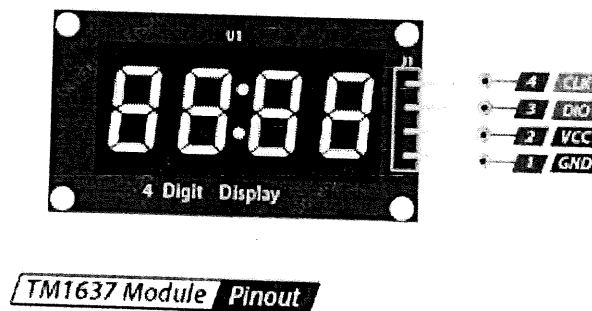
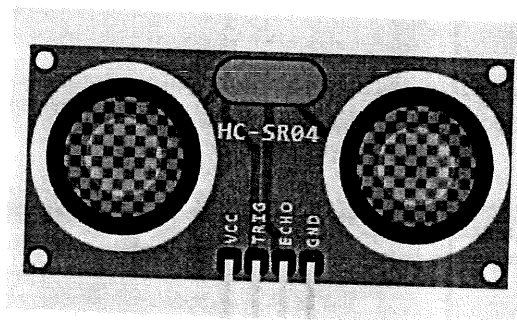
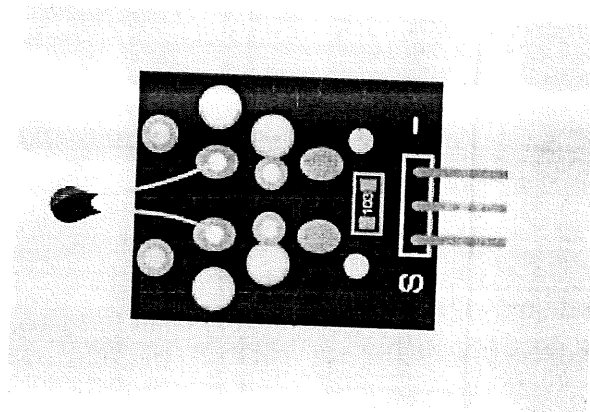

Figure 3: TM1637 module
Figure 4: SR04 ultrasonic distance sensor
Figure 5: NTC temperature sensor
- i) **Produce** schematic diagram for the connection between Pi Pico, SR04 ultrasonic distance sensor, NTC temperature sensor and TM1637 module. Refer Figure 3 for Tm1637 module , Figure 4 for SR04 ultrasonic distance sensor and Figure 5 for NTC temperature sensor. (15 marks)